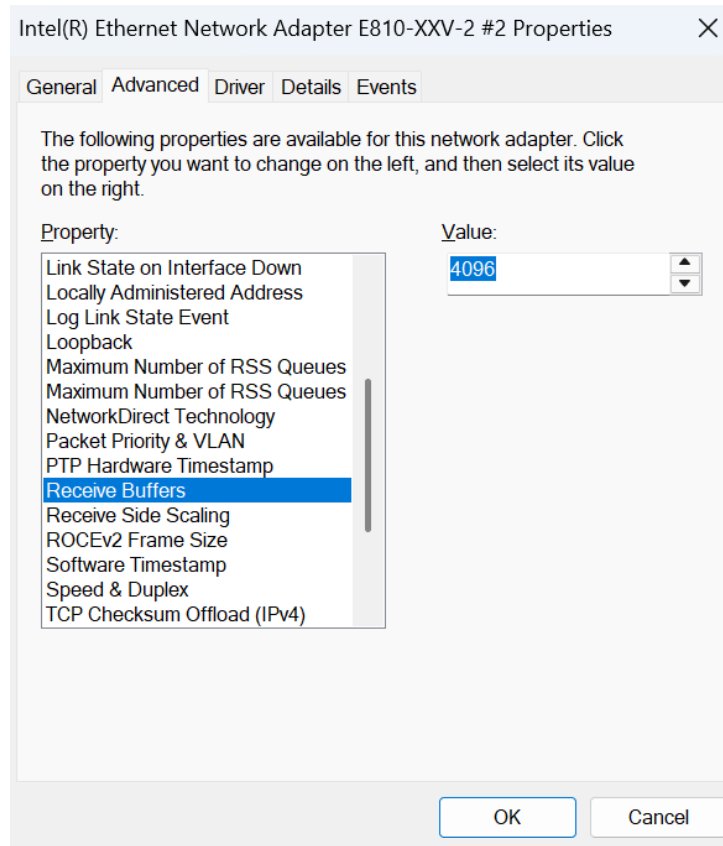

Figure 7 Receive Buffers
4) On “Receive Buffers” window, set value to the maximum value, as shown in Figure 7.